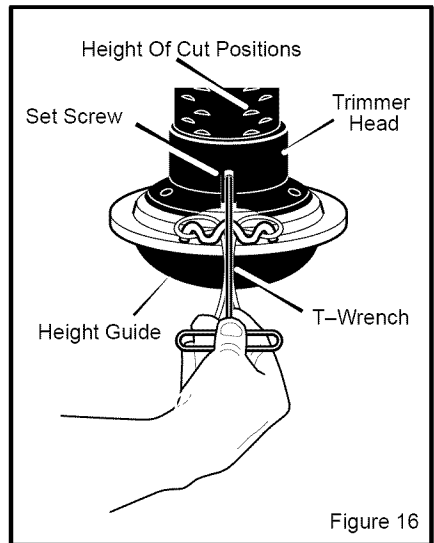

Figure 16
- Trimmer head contact to concrete, asphalt and harder services may create premature wear to the **height guide** (See Figure 16).
1. Use the **T-wrench**, found in the parts bag, to loosen the **set screw** shown in Figure 16.